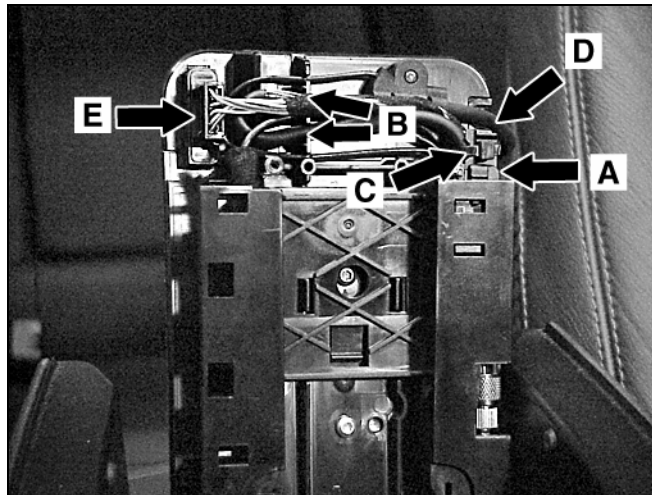

Figure 13
17. Route the coil-cord through the inner channels of the base plate (B, Figure 13).
18. Install a wire-tie to relieve stress on the coil-cord power connection (C, Figure 13).
19. Route the coil-cord through the notch cut out of the base plate (D, Figure 13).
20. Reconnect the Tele Aid power connector (E, Figure 13).